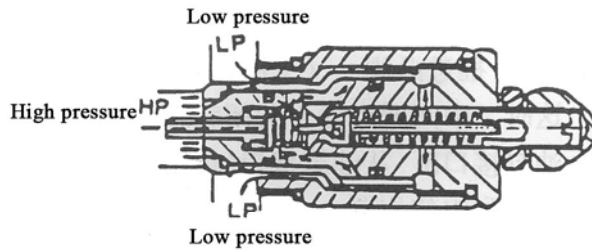

Fig 7.7
- (2) When the oil pressure in the high pressure joint of cylinder is over the spring setting pressure, the pilot valve core E will open, oil flows in the hole through the valve core, then enters into the low pressure oil way (See Fig 7.7).